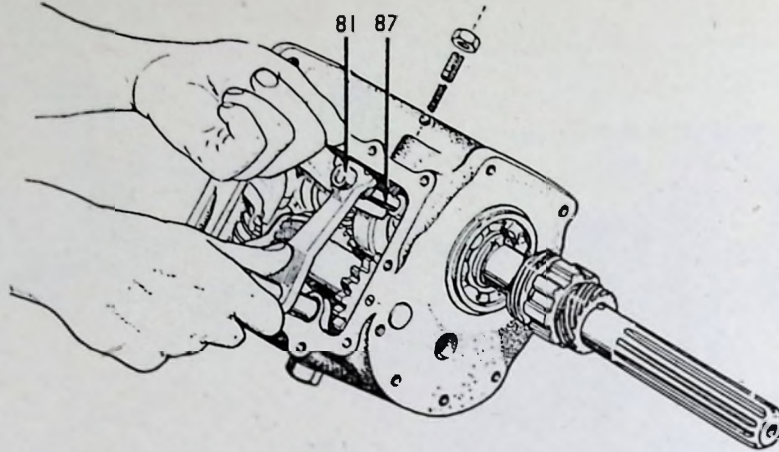

FIG. 49.—Fitting forward/reverse lever and fork with detent parts.
Fit forward/reverse lever (81, Fig. 49) and fork (87), detent ball (83), spring (84), screw (85) and locknut (86). Lock up with nut flush with top of screw).